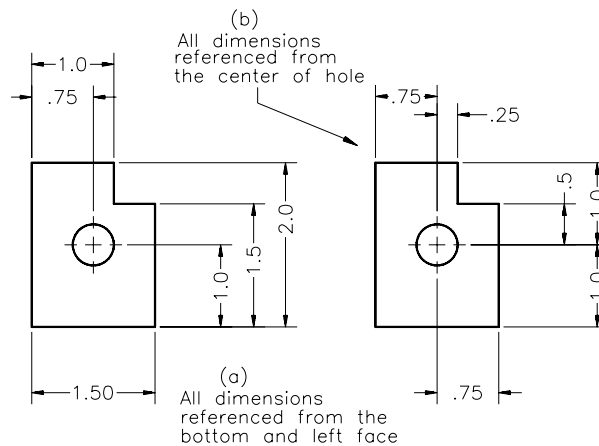

Figure 22-38 When dimensioning, consider the machining processes involved
12. The dimensions must be given depending on how the part will be machined, and also on the relationship that exists between the different features of the part (Figure 22-38).